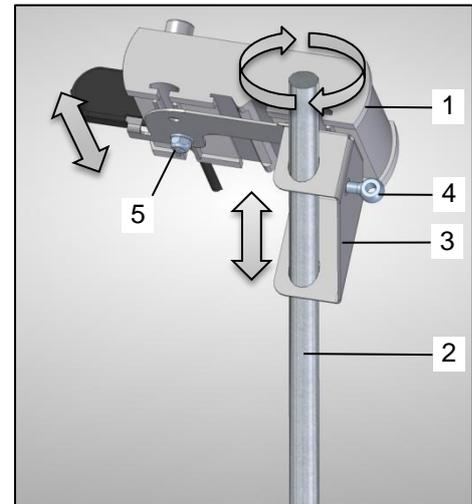

Fig. 3: Installation
To install the terminal (Fig. 3 / Pos.1) proceed as follows:
- Select a suitable position in the tractor cab where you would like to mount the terminal (Fig. 3 / Pos.1).
- Loosen the eyebolts (Fig. 3 / Pos.4) on the bracket (Fig. 3 / Pos.3) on the back of the terminal (Fig. 3 / Pos.1).
- Guide the rod (Fig. 3 / Pos.2) through the holes in the bracket (Fig. 3 / Pos.3) (the rod is not included,  $\varnothing 22\text{mm}$ ).
- If the terminal (Fig. 3 / Pos.1) collides with the rod (Fig. 3 / Pos.2) when moved, the position of the bracket (Fig. 3 / Pos.3) must be adapted to the terminal (Fig. 3 / Pos.1). For this, loosen the nuts (Fig. 3 / Pos.5), adjust the terminal (Fig. 3 / Pos.1) and retighten the nuts (Fig. 3 / Pos.5).
- Position the terminal (Fig. 3 / Pos.1) in the desired height. Ensure that the rod (Fig. 3 / Pos.2) protrudes at least 2cm above the bracket (Fig. 3 / Pos.3).
- Fasten the terminal (Fig. 3 / Pos.1) by tightening the eyebolts (Fig. 3 / Pos.4) on the rod (Fig. 3 / Pos.2).